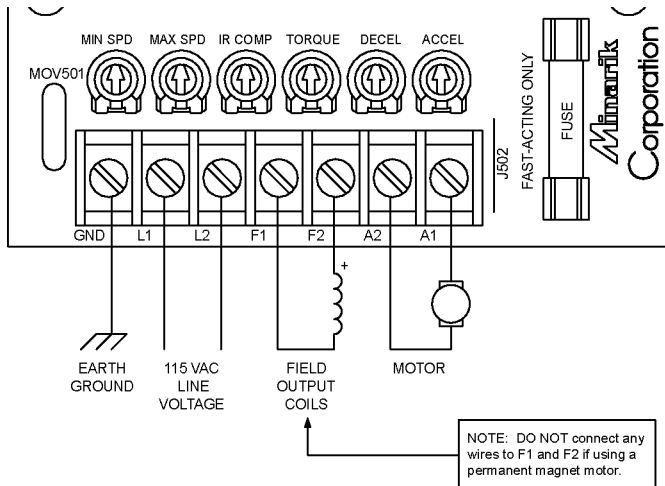

Figure 8. MM21151C and MM21251C Connections
Connect a DC motor to terminals A1 and A2 as shown in Figure 8, page 16. Minarik drives supply motor voltage from A1 and A2 terminals. It is assumed throughout this manual that, when A1 is positive with respect to A2, the motor will rotate clockwise (CW) while looking at the output shaft protruding from the front of the motor. If this is opposite of the desired rotation, simply reverse the wiring of A1 and A2 with each other.
Connect the AC power line leads to terminals L1 and L2 as shown in Figure 8.